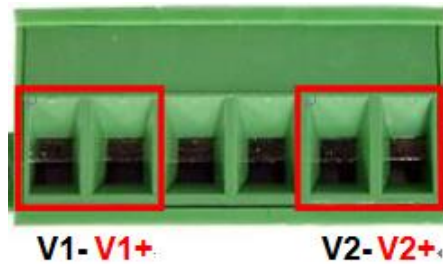

Figure 2.6
1. Insert the positive and negative wires into the PWR1 (V1+, V1-) and PWR2 (V2+, V2-) contacts on the terminal block connector as shown below in *Figure 2.6*.